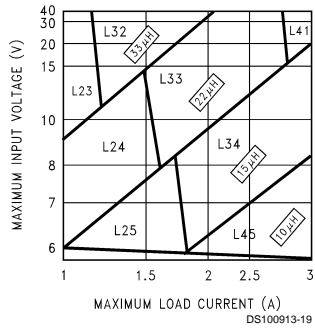
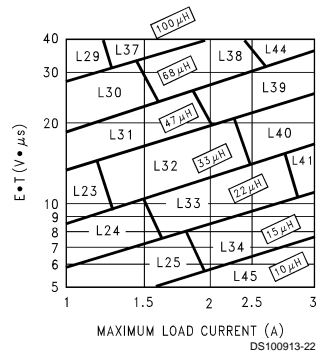

FIGURE 3. LM2673-3.3
FIGURE 6. LM2673-ADJ
Step 3: Determine the inductor required by using one of the four nomographs, *Figure 3* through *Figure 6*. Table 1 provides a specific manufacturer and part number for the inductor.
Step 5: Determine an input capacitor from Table 4 for fixed output voltage applications. Use Table 2 to find the specific capacitor type. For adjustable output circuits select a capacitor from Table 2 with a sufficient working voltage (WV) rating greater than $V_{in\ max}$, and an rms current rating greater than one-half the maximum load current (2 or more capacitors in parallel may be required).
Step 3: Use the nomograph for the 3.3V device, *Figure 3*. The intersection of the 16V horizontal line ($V_{in\ max}$) and the 2.5A vertical line ($I_{load\ max}$) indicates that L33, a 22 μ H inductor, is required.
Step 3: To use the nomograph for the adjustable device, Figure 6, requires a calculation of the inductor Volt•microsecond constant (E•T expressed in V• μ S) from the following formula:
Using Figure 6, the intersection of 27V• μ S horizontally and the 2A vertical line (I_{load} max) indicates that L38, a 68 μ H inductor, should be used.
Important Note: When using the adjustable device in low voltage applications (less than 3V output), if the nomograph, Figure 6, selects an inductance of 22 μ H or less, Table 6 does not provide an output capacitor solution. With these conditions the number of output capacitors required for stable operation becomes impractical. It is recommended to use either a 33 μ H or 47 μ H inductor and the output capacitors from Table 6.